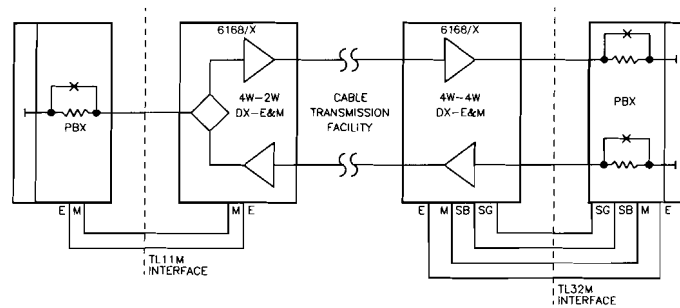

figure 2. Typical short-haul tie-trunk circuit using 6168/X module
2.02 The 6168/X is well suited to a variety of 4wire-to-4wire and 4wire-to-2wire DX-to-E&M applications, both network-terminating and otherwise. Figures 2 and 3 show two typical network-terminating tie-trunk applications of the 6168/X.